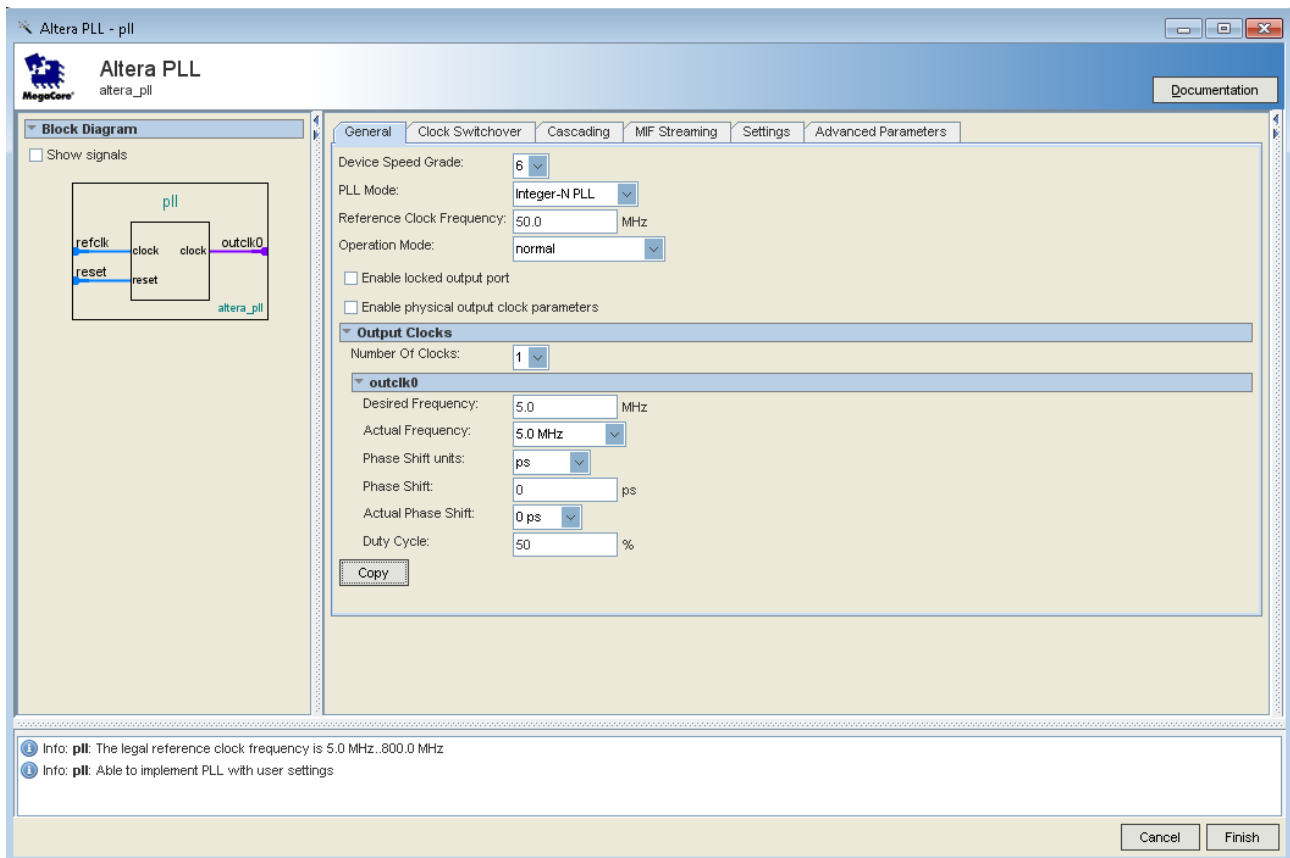

Figure 3-12 MegaWizard Plug-In Manager Selections
- Then, make the following selection (see **Figure 3-12**).